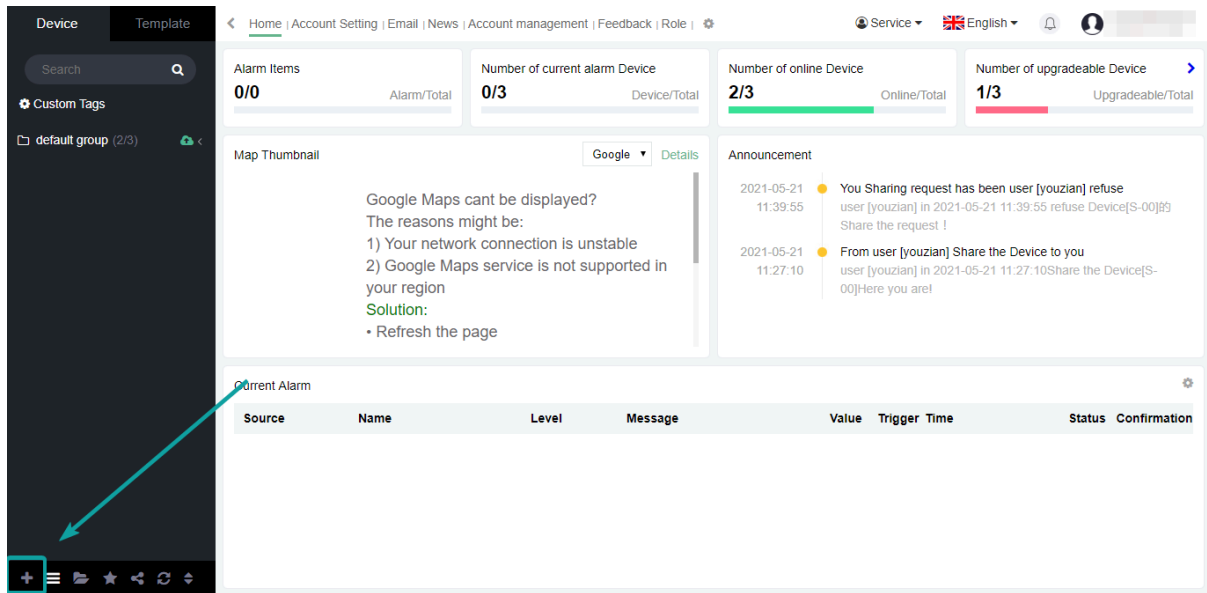

Figure 2
3. After successfully logging in, enter the "V-NET" interface, as shown in Figure 2. Add the HMI information you want to access through the "+" in the lower left corner.